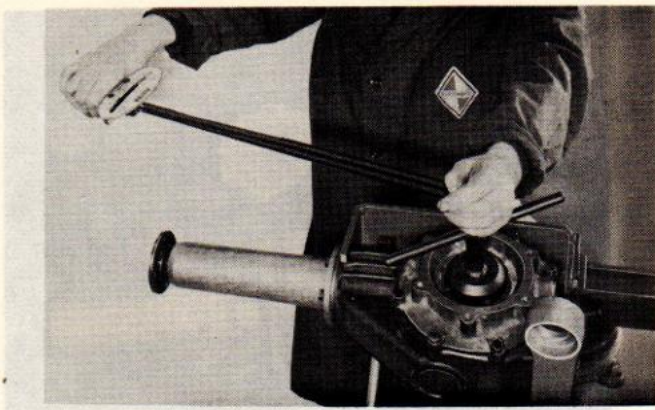

Fig. 25
14. Tighten castellated nut on opposite side to a torque of 87 ft/lb (12 m/kg). The side clearance at the marked spot should then be .006" (0.15 m/m). If this is not the case, the nut must be re-adjusted to suit. Tools: - WK 139 and torque wrench (see Fig. 25).